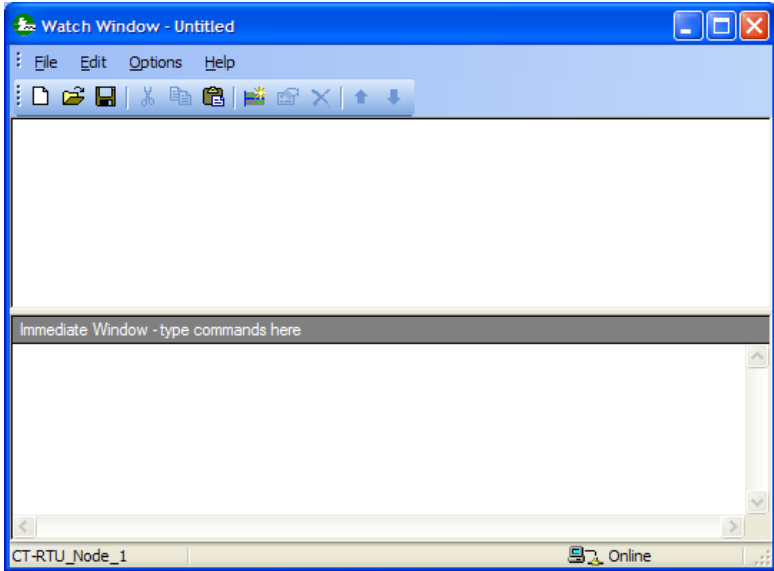

Figure 7-9 Watch Window (1)
- While the cyclic communications are running, open the 'Watch window' in SyPT (shown in Figure 7-9 below).